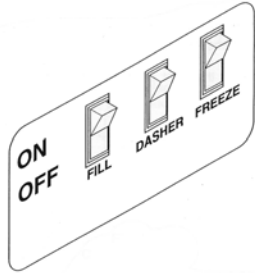

Fig. 15
3. Set the fill switch (Fig. 15) to the "ON" position.